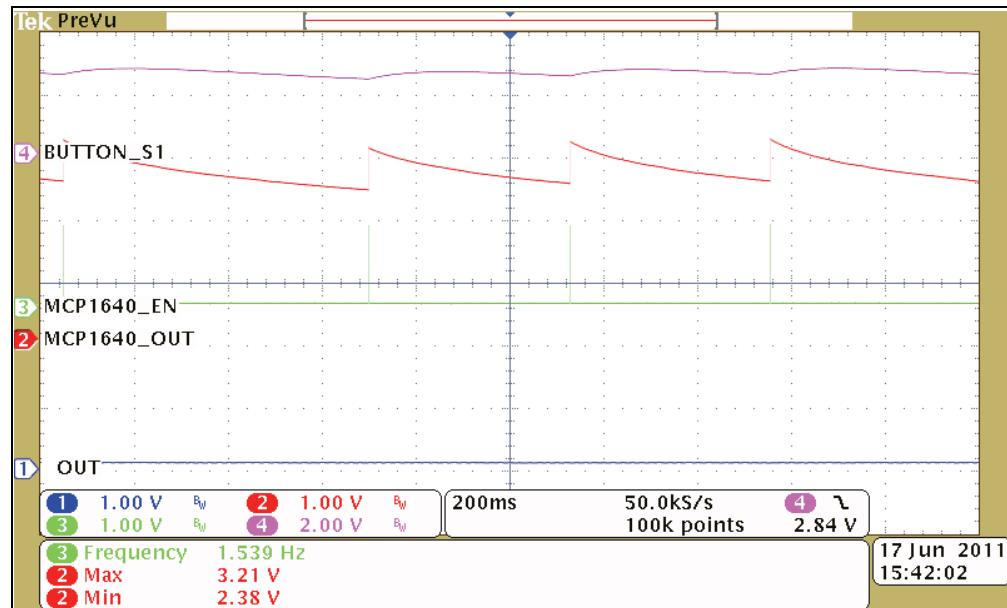

FIGURE 2-4: Waveforms while MCP1640 is Shutdown (OUT is off).
- Added Figures 2-4 and 2-5 in **Section Chapter 2. “Installation and Operation”, (Section 2.2.2).**